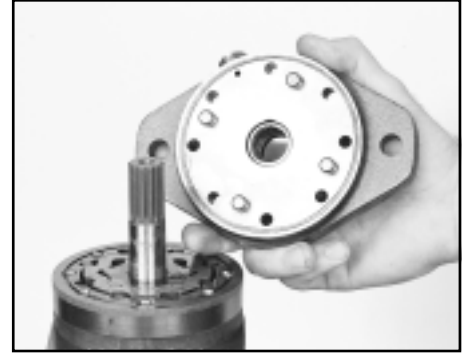

Figure A19
23. Install a square ring seal (3) into the groove of the front bearing housing/flange (10). Place the front bearing housing w/ square ring over the shaft and onto the locating ring. Be sure to align the 4 dowels with the short dowels inside the locating ring and to align the bolt holes with the holes in the locating ring. (bolt hole pattern will only match one way.) SEE FIGURE A19